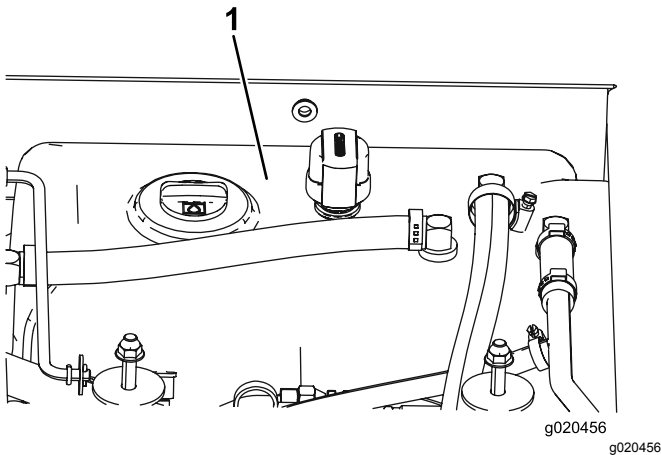

Figure 98
3. Fill the reservoir (Figure 98) with hydraulic fluid; refer to Checking the Hydraulic Fluid \(page 28\).